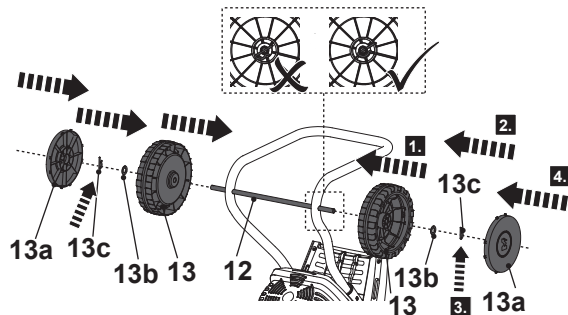

Fig. 2
5. Align and place one wheel (13) onto the wheel axle (12) (Fig. 2, step 1).
6. Pass the washer (13b) through the wheel axle (12) (Fig. 2, step 2).
7. Secure the connection by passing R-clip (13c) through the hole of wheel axle (12) (Fig. 2, step 3).
8. Attach the cover (13a) to the wheel (13). Make sure that the latches of the cover (13a) are correctly engaged in the slots of the wheel (13) (Fig. 2, step 4). Use a rubber mallet to secure the covers all the way.